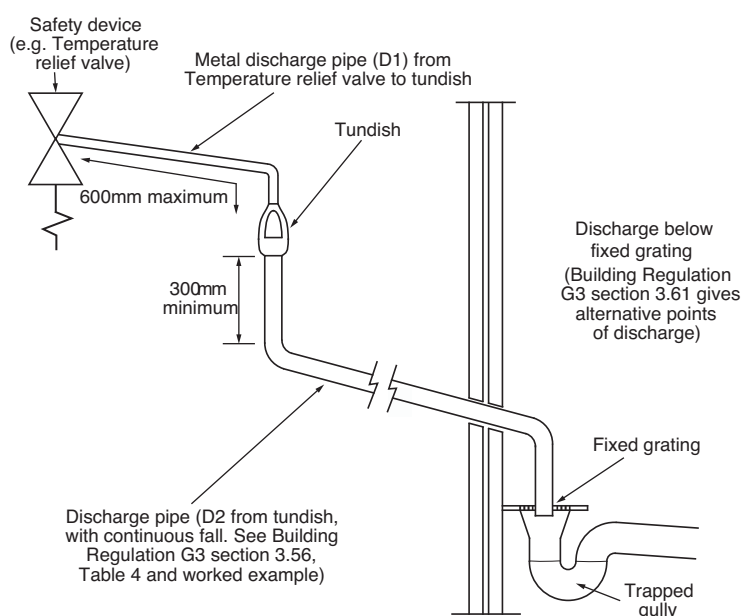

Fig. 8
a. be at least one pipe size larger than the nominal outlet size of the safety device unless its total equivalent hydraulic resistance exceeds that of a straight pipe 9m long i.e. discharge pipes between 9m and 18m equivalent resistance length should be at least two sizes larger than the nominal Outlet size of the safety device, between 18 and 27m at least 3 sizes larger, and so on. Bends must be taken into account in calculating the flow resistance. Refer to Fig. 8, Table 1 and the worked example.